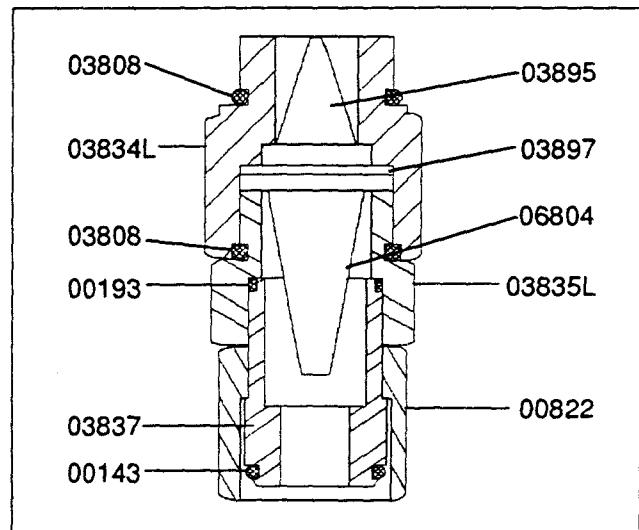

Figure 26
**22.0 OXYGEN INLET ASSEMBLY - BOTTOM REAR, RIGHT OF VALVE BLOCK (FIGURE 26)**
**23.0 ALARM RETAINER CAP ASSEMBLY - BOTTOM OF VALVE BLOCK (FIGURE 26)**